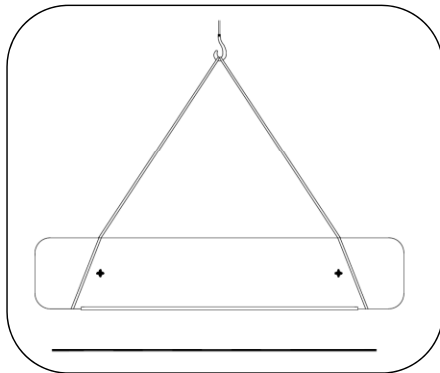

Fig. 1 – Crane install
1. Set in place with proper equipment such as a crane. See Fig. 1.